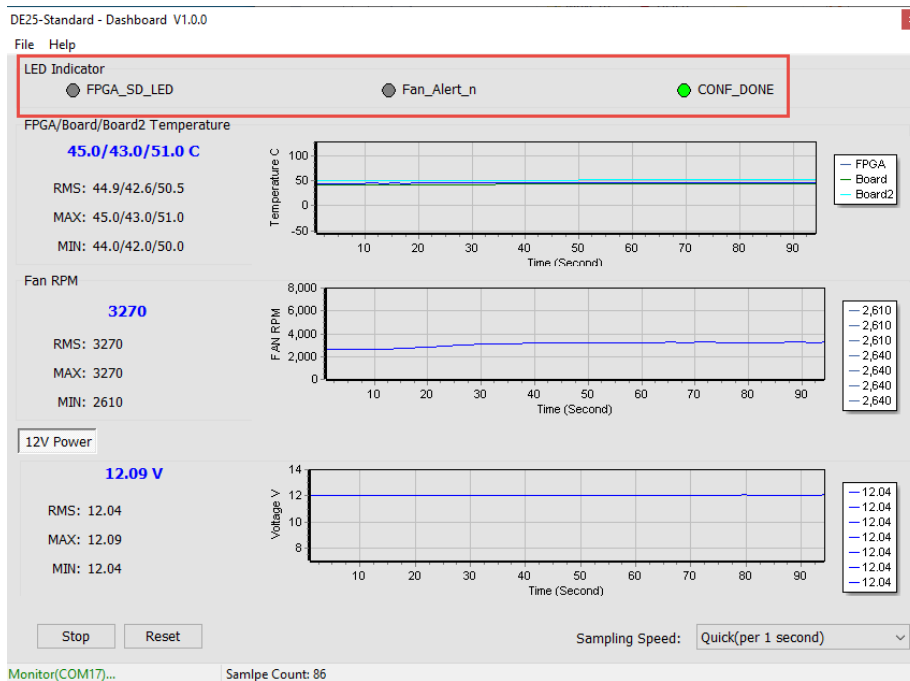

Figure 4-8 FPGA Status section
- **CONF_DONE** :As shown in **Figure 4-8**, once you press the “Start” button, it will show the status LED number on the DE25-Standard. For these LEDs function, please refer to section 2.2. Note that “CONF_DONE” stands for FPGA configure done status. There is no LED on DE25-Standard to display FPGA configure status. When this status is shown in green on the GUI, it means that FPGA configuration has been completed.